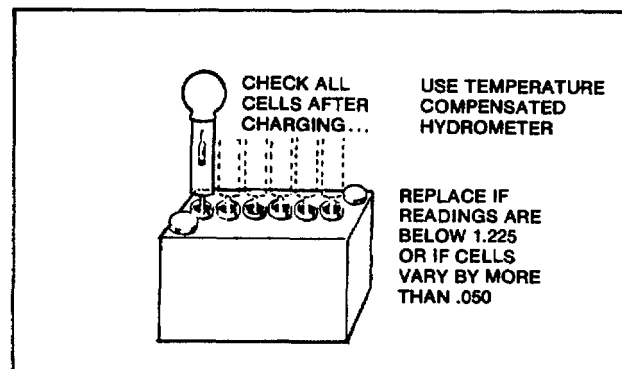

Fig. 66- Checking 12V Battery Cells
The dry charge battery is manufactured with fully charged plates. Electrolyte must be added at the time that the battery is placed in service. Before activating a dry charge battery, read and follow the manufacturer's recommended procedure. Fig. 66.
3. With battery fully charged, check specific gravity readings of each cell with a Battery Hydrometer and record readings (Fig. 66). All readings should be above 1.250 (compensating for temperature). If specific gravity readings varied .050 or if **ALL** cells read less than 1.225, replace battery. Attach voltmeter clips to the battery posts, positive lead (+) to positive post of battery, negative lead (-) to negative post of battery. With ignition switch "Off" press starter button. If ignition switch and starter switch are the same switch, disconnect spark plug lead from plug and turn switch to "Start." Voltmeter should read 9 volts or more while cranking engine. If less than 9 volts, replace battery.